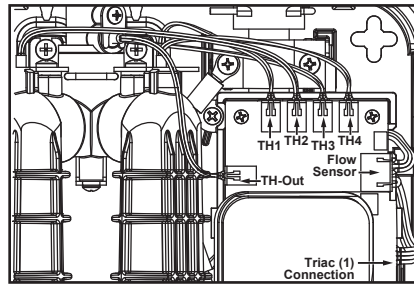

Figure 28 - Sensors control board terminal locations.
**3** With the front cover removed, take a moment to record or photograph how the sensors and triac(s) are installed and which control board terminals the wire harnesses are plugged into. See Figure 28.
**9** Properly reconnect the sensor and triac(s) to the control board, making sure the sensor, triacs, and wire harness connections are connected to the proper control board terminals. See Figures 28 and 29, page 22.